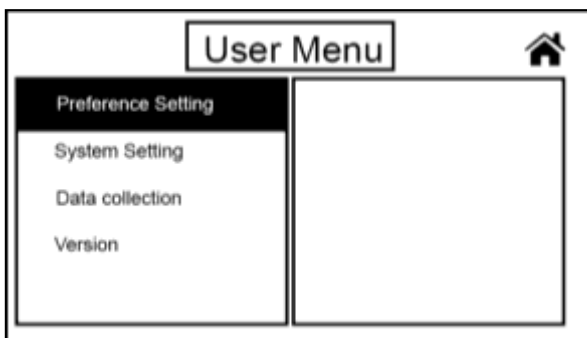
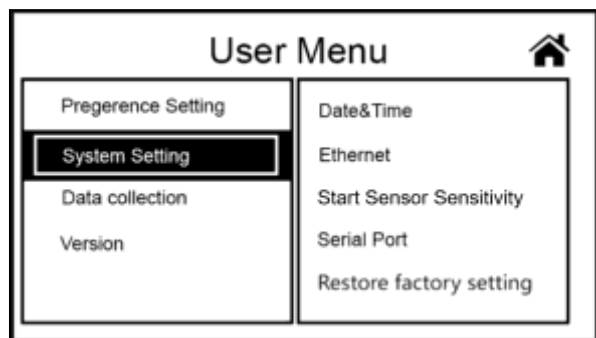

Figure 101
Figure 102
1) Touch the “Menu” key to enter the “User Menu” interface, as shown in Figure 101 below. Then press “System Setting” to enter the “System Setting” interface, as shown in Figure 102.